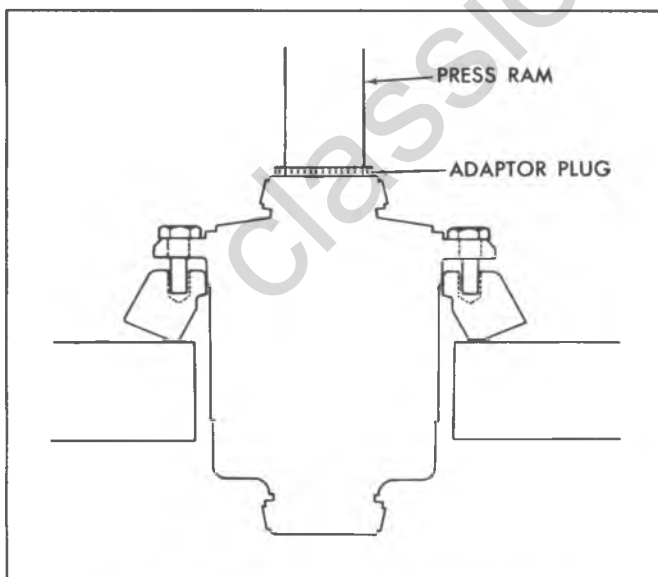

Fig. 5A—Ring Gear-to-Case Installation
3. Liberally coat the differential case pilot with hypoid lubricant. Pre-align ring gear and differential case bolt holes and press against adaptor plug J-8107-2 to initially start ring gear on case pilot, as shown in figure 5A.